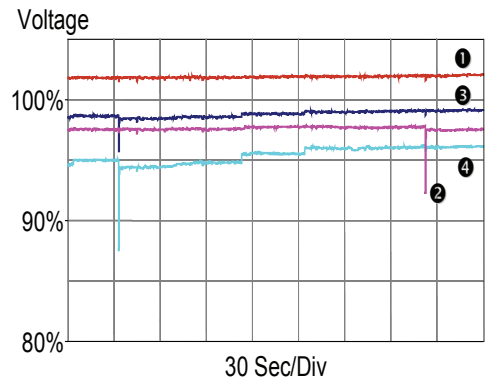

Figure 5: L2 Voltage at 4 Locations
One of the main benefits of using PQZIP compression technology and continuous storing of all information at high resolution is the ability to monitor events at several locations synchronized by time. Figure 5 shows the phase L2 to neutral voltage at all 4 locations. Only the voltage dip at 4 was more than the commonly used 10% threshold. When using a trigger-based logger, the troubleshooting engineer would have only a few cycles before and a few cycles after the event, from location 4 only. The data from the other three locations wouldn't be logged. Therefore, it would be difficult to understand the event propagation over the network.
Figure 5 shows the L2 voltage on all locations. It shows two events – on the left side an event started from 4, to the transformer secondary (3), up to the primary (1) and down to the other's transformer secondary (2). However, the event on the right did the opposite: from 2 to 1 and down to 3 and 4. The lack of additional measurement points prevents better analysis of the source of failure and how to prevent it from reoccurring.